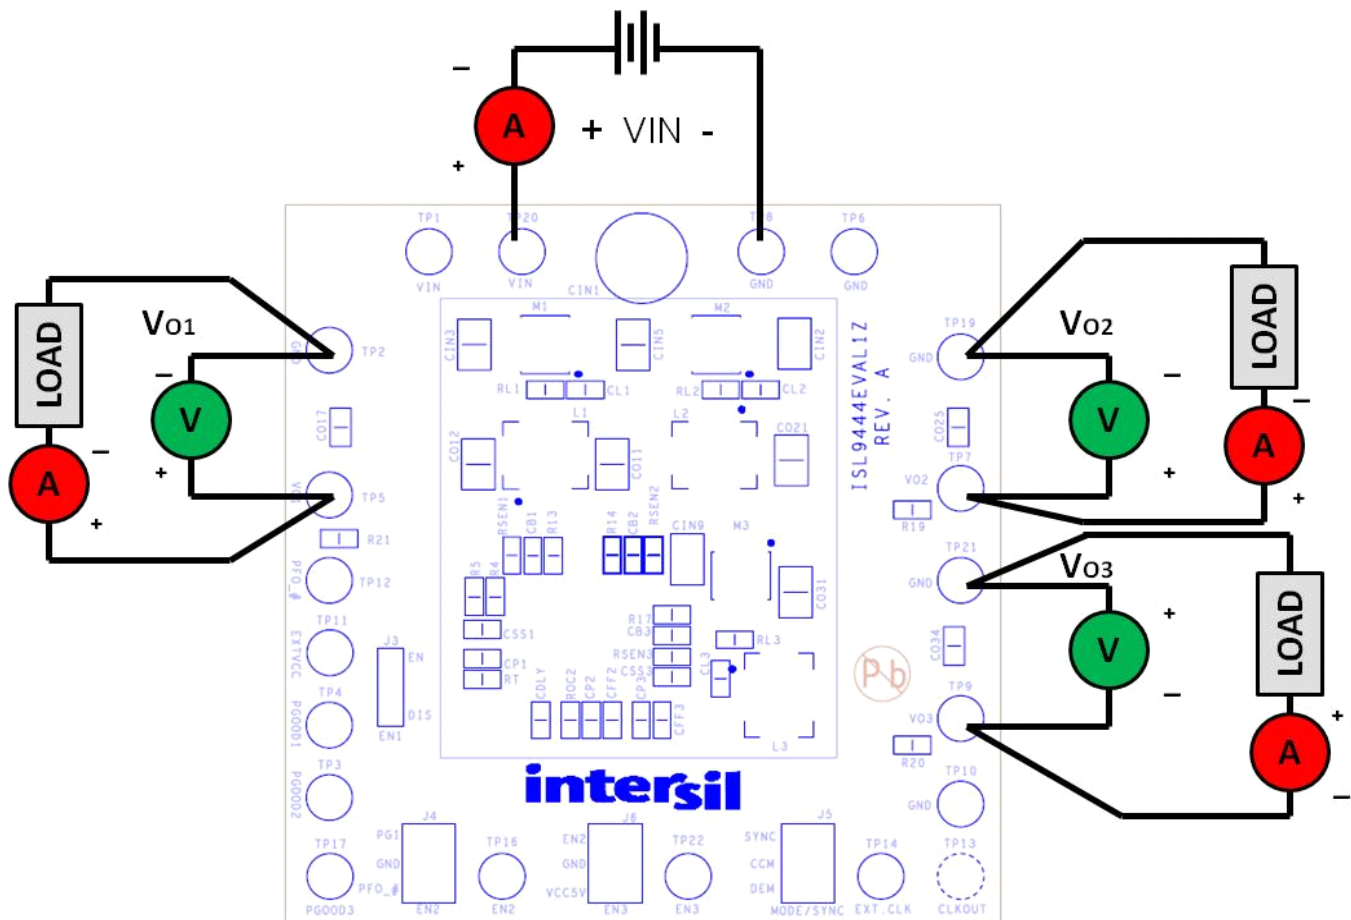

FIGURE 2. PROPER TEST SET-UP
2. Ensure that the circuit is correctly connected to the supply and electronic loads prior to applying any power. Please refer to Figure 2 for proper set-up.